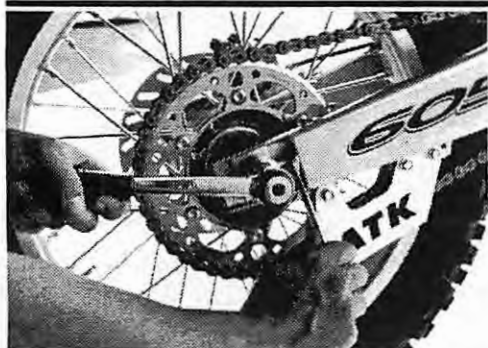

Figure 4.20
1. Loosen the 30 mm axle nut and the 12 mm locknut on each adjuster screw. (Figure 4.20)